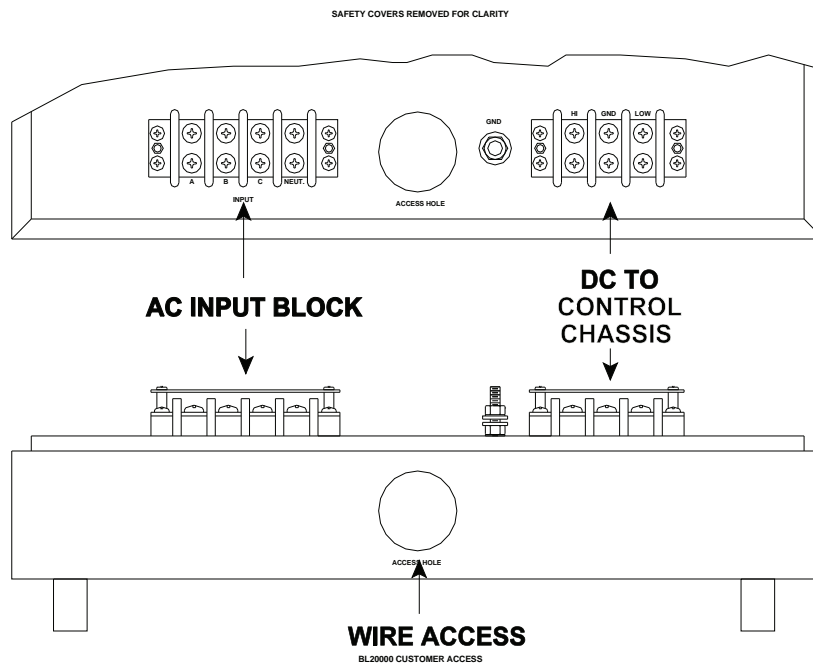

FIGURE 2-1 WIRE ACCESS TOP/BOTTOM VIEW
- b) OUTPUT POWER- Output power lines are connected to designated terminals, ϕA , ϕB , ϕC , and neutral provided on the control chassis (or on the output chassis supplied with "T" option). Refer to figure 2-1. Re-install all provided safety covers.